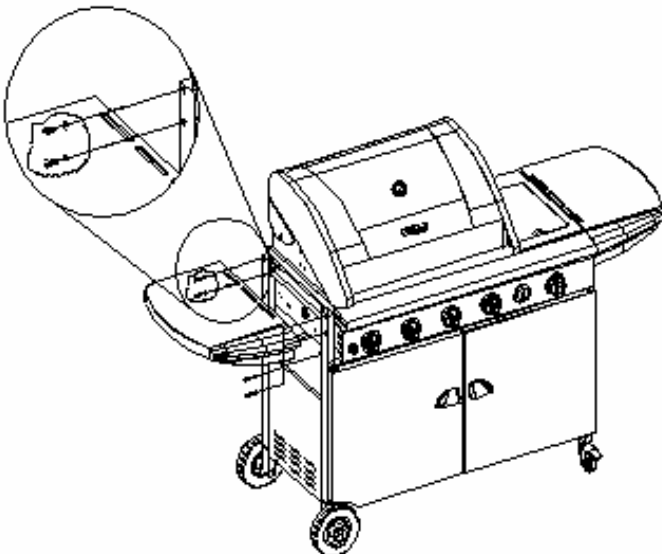

Figure 15
2. Attach left side shelf to cart leg using (4) $\frac{1}{4}$ x $\frac{3}{5}$ " Phillips head screws and (4) $\frac{1}{4}$ " lock washers. See (Fig. 15)